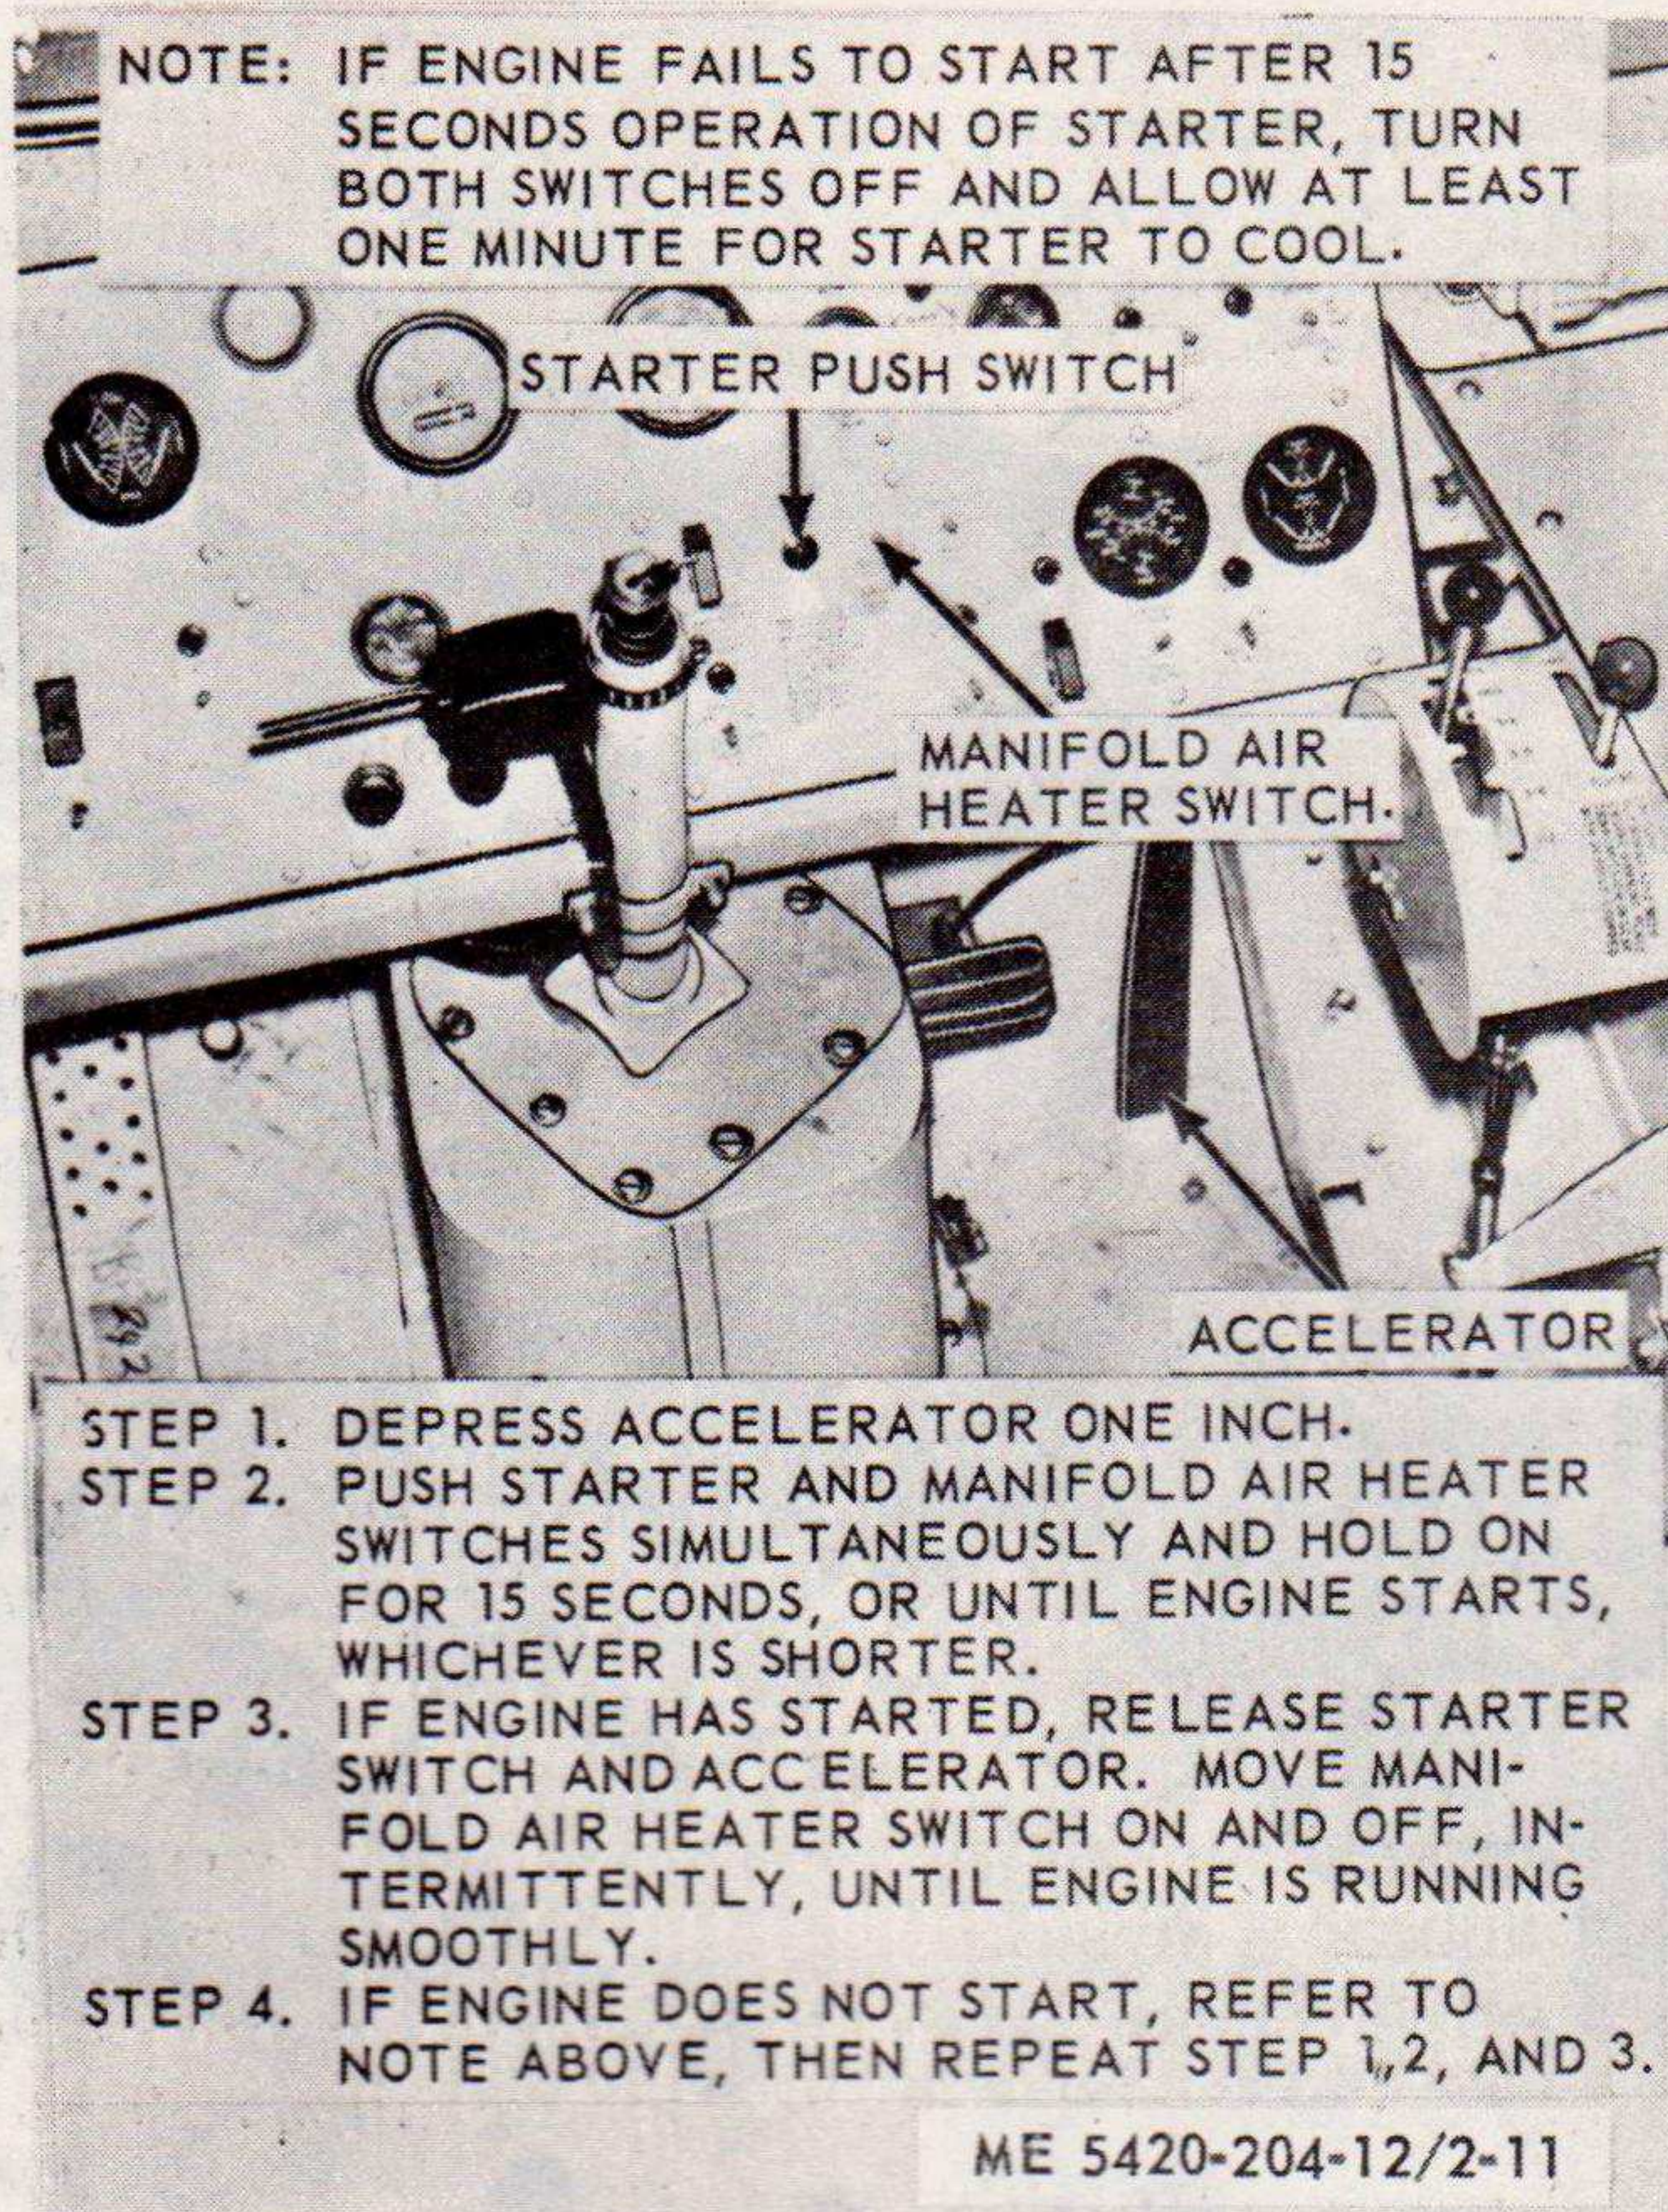
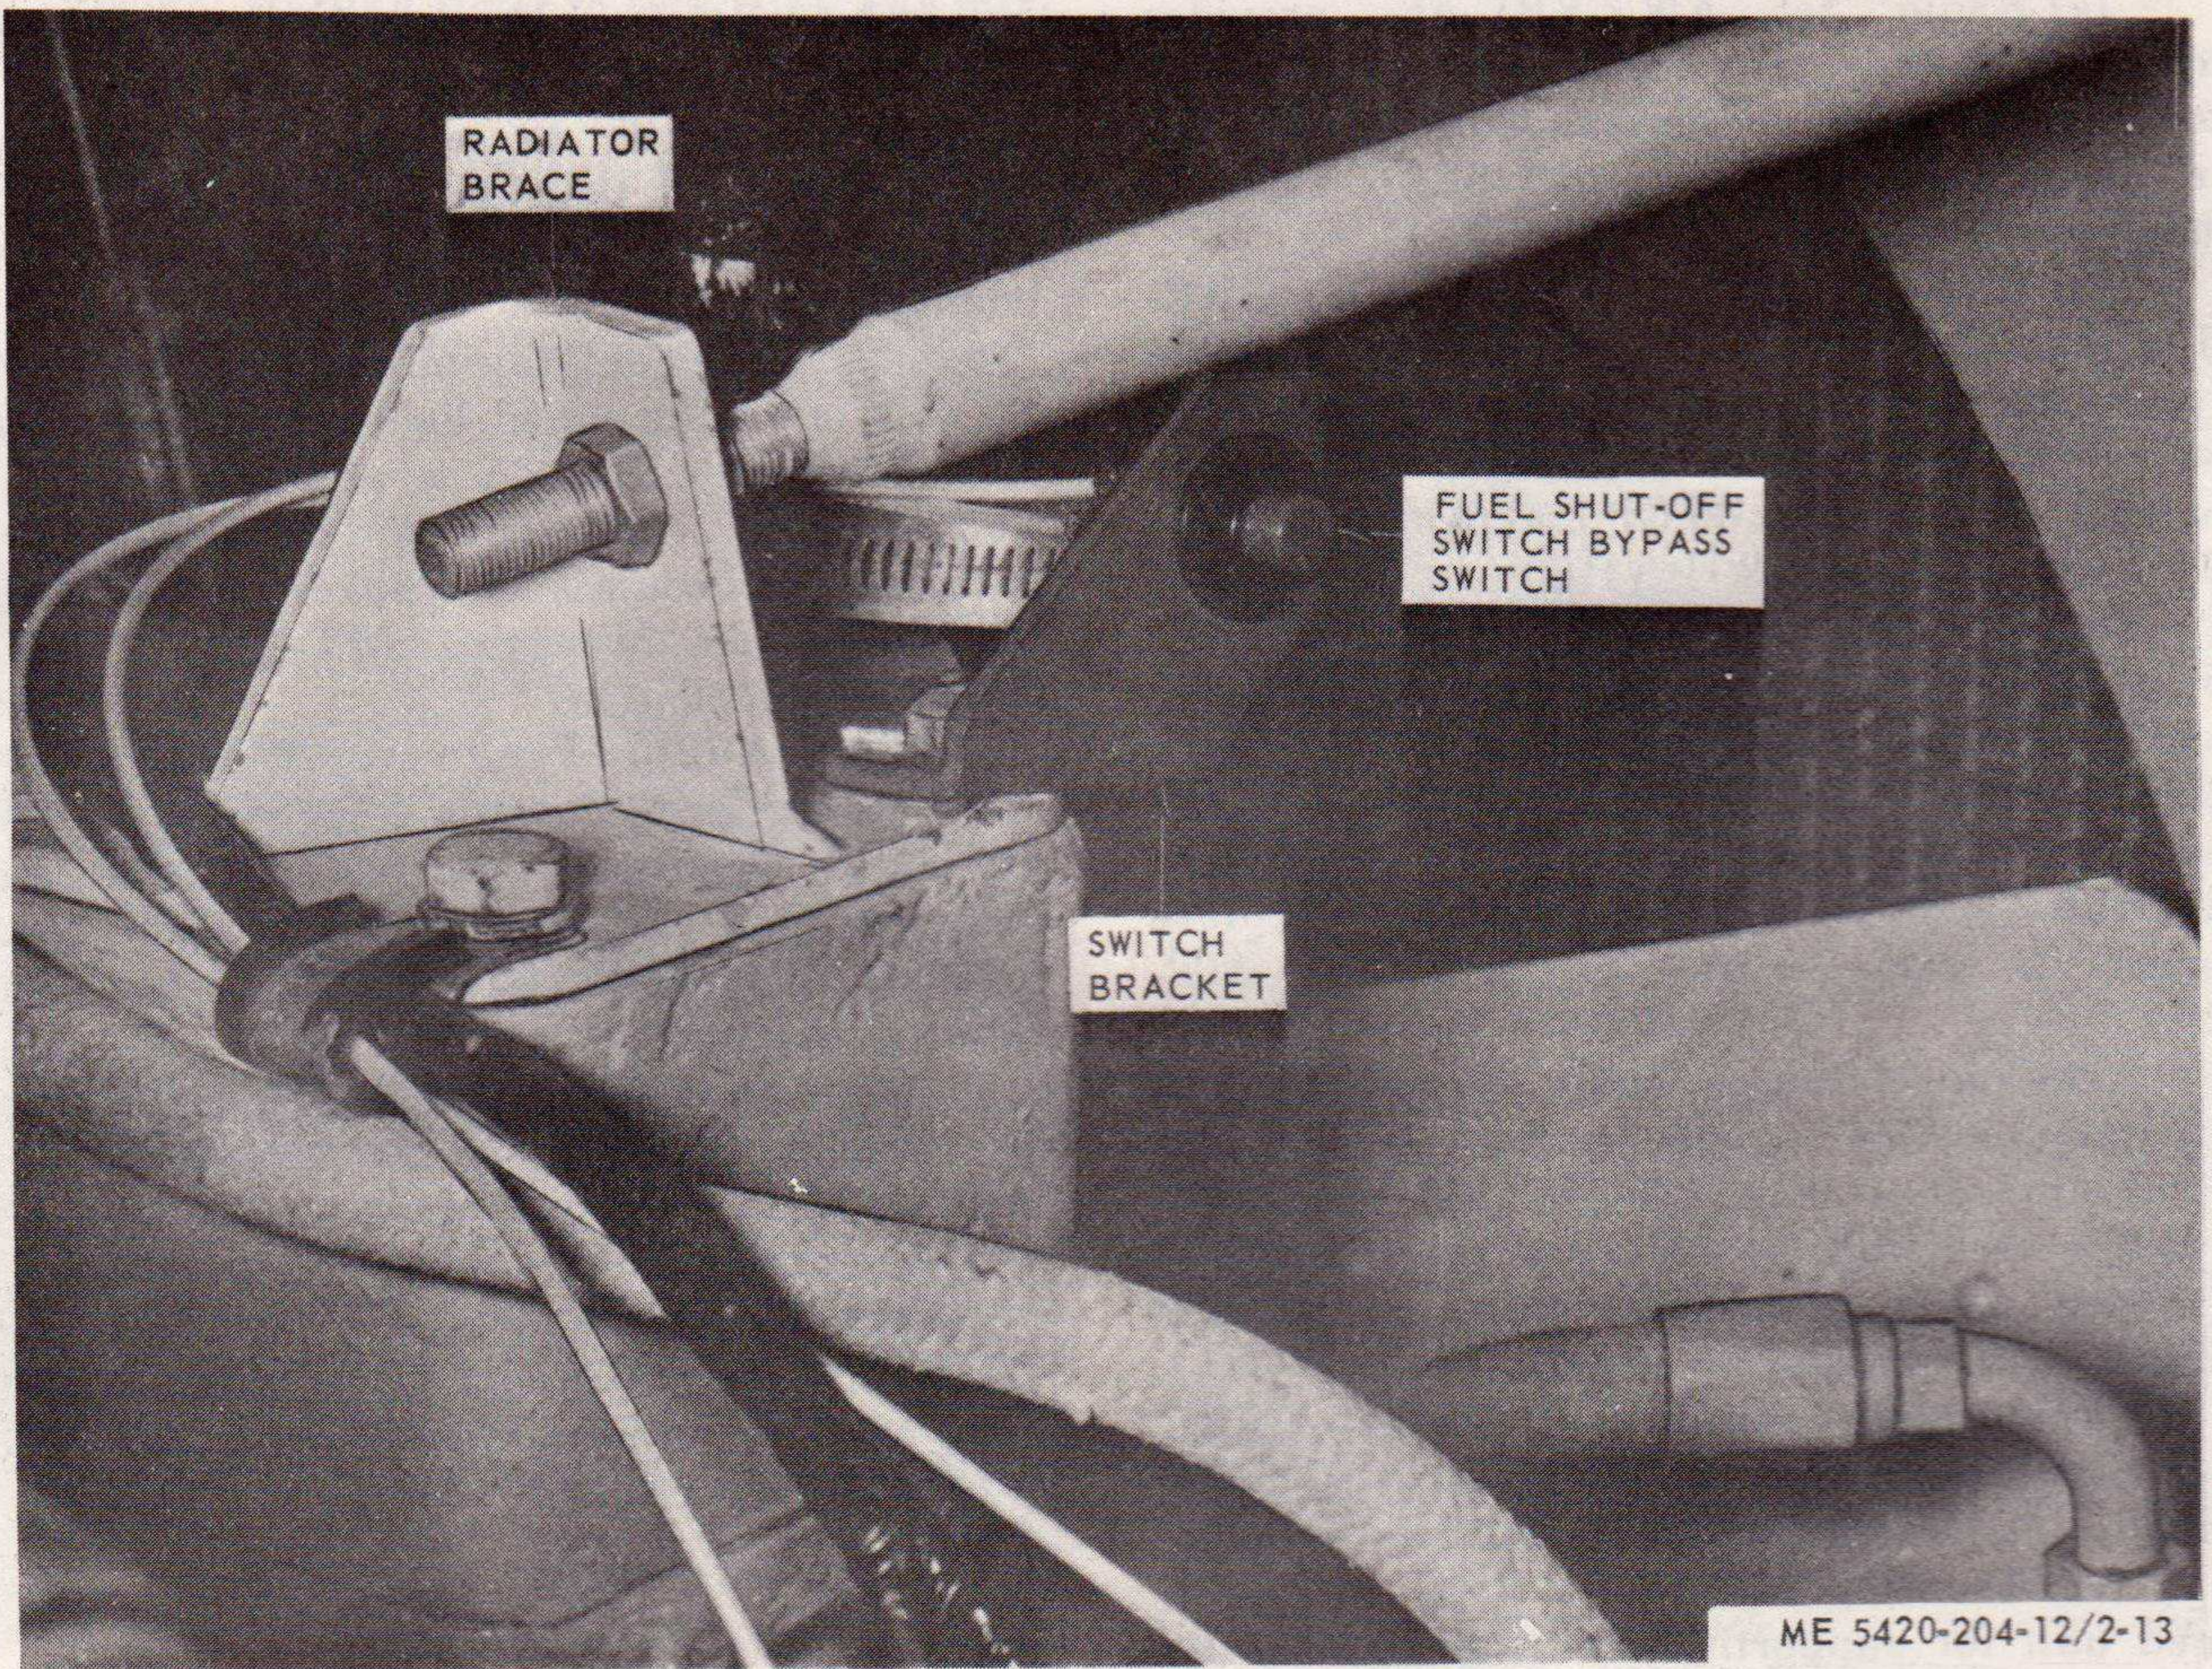

Figure 2-11. Cold weather starting of engine.
Figure 2-13. Fuel shut off switch by-pass switch.
b. Operation. Refer to figure 2-11 and operate the air heater.
—24° F. Refer to figure 2-11 for starting the engine. If the engine has been cranking and suddenly stops, one crew member will push the fuel shut-off switch by-pass switch (fig. 2-13) and hold the button down, while the operator engages the starter switch until the engine starts.